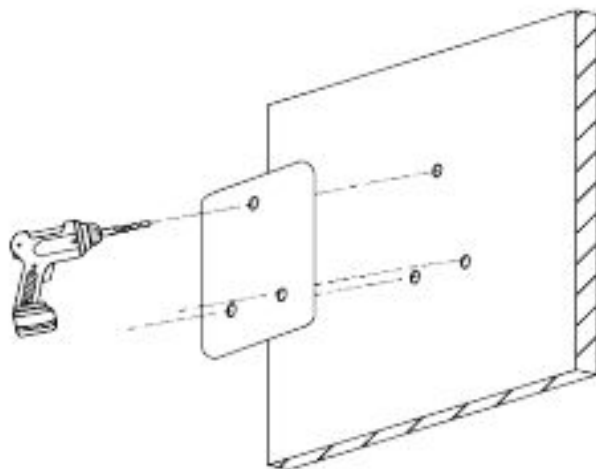

Figure 2-1
Step 1 Use the included template to drill the mounting holes. See Figure 2-1.